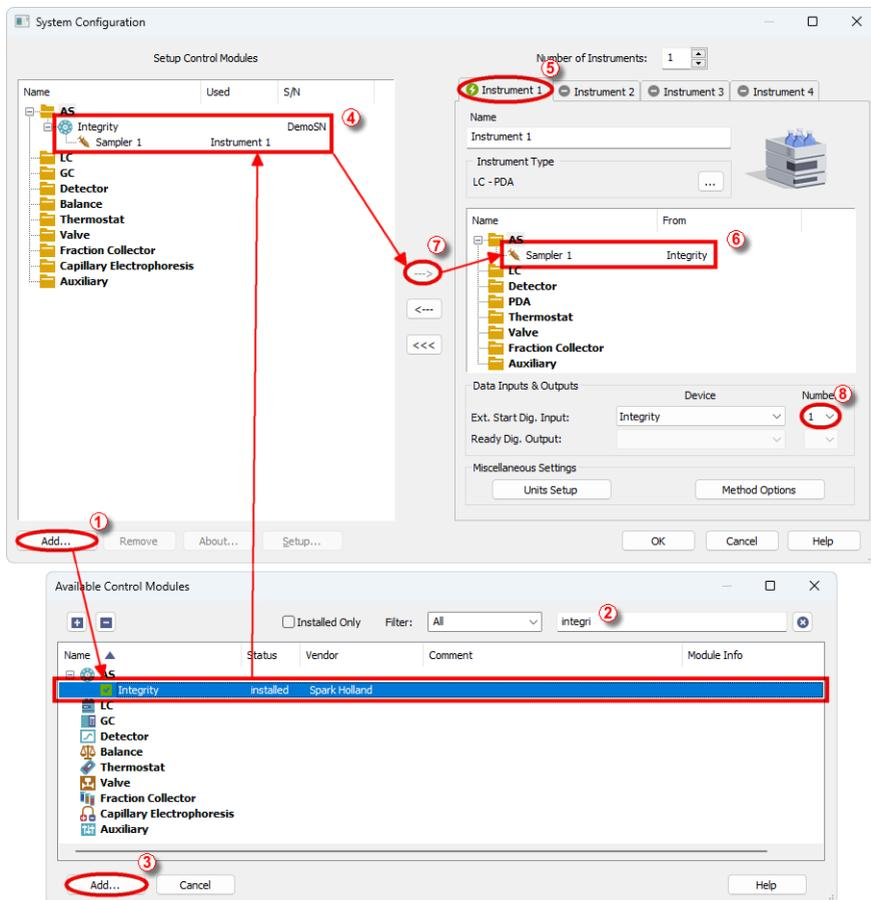

Fig. 5: System Configuration
- Press the **Add** button ① (see Fig. 5 on pg. 7.) to invoke the *Available Control Modules* dialog.
- You can specify the searching filter ② to simplify the finding of the driver.
- Select the **Integrity** sampler and press the **Add** ③ button.